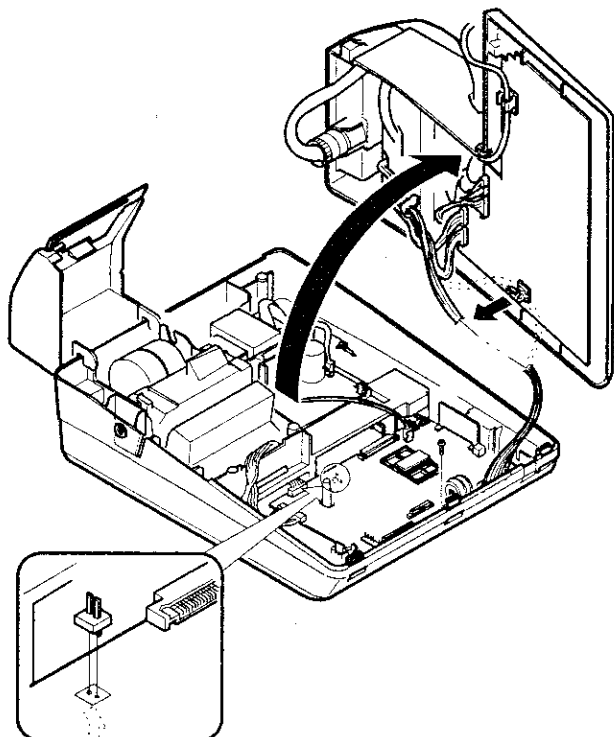

Fig. 1
4) Installing parts on main PWB (Fig. 1)
Install and solder the 2-pin connector on the main PWB (Fig. 1)